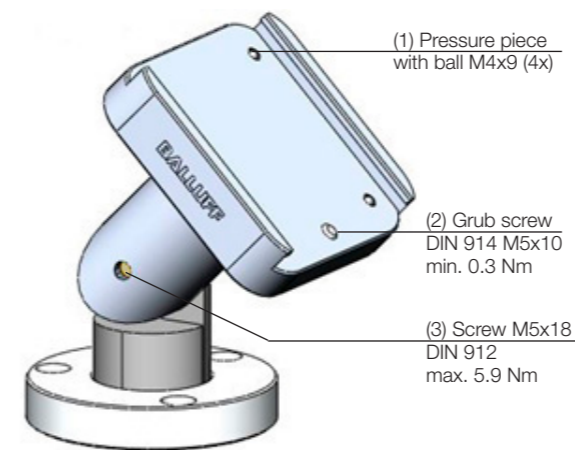

Fig. 3: Adjusting elements
2. Slide the unit onto the plate on the upper joint. If the unit is difficult to insert or seated too loosely, adjust the four pressure pieces (1).
3. Once the unit is inserted correctly, tighten the grub screw (2) to secure.
4. Slacken the screw (3) to shift the mounting system. Observe the max. torque when tightening (Fig. 3).